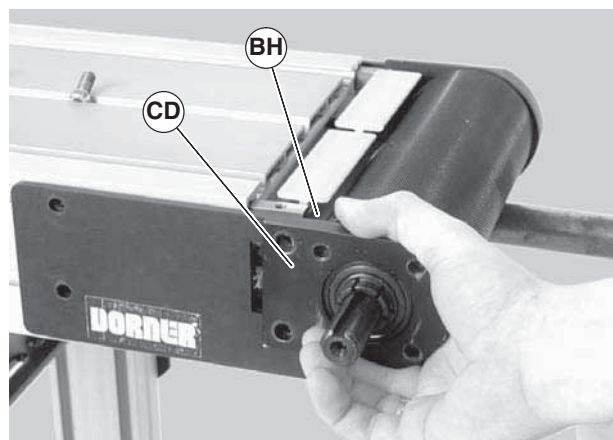

Figure 62
6. Remove the outer headplate assembly (Figure 62, item CD), and inner spacer (BH).